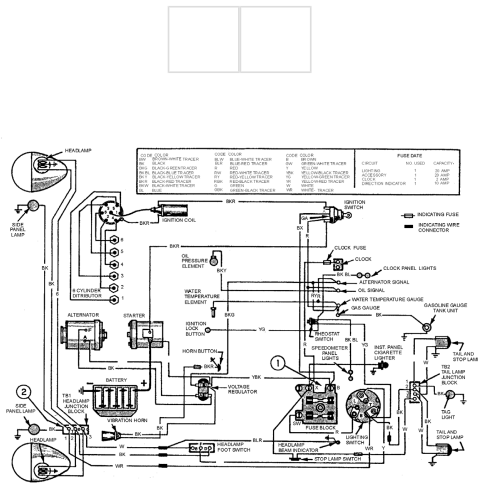

Figure 3-11.—Wiring diagram.
electrical or electronic circuits. The wiring diagram for an automobile is shown in figure 3-11. It shows all the electrical components and that the interconnecting wiring is color coded.
On the schematic shown in figure 3-11, you can see that there are numerous connections to point (2).